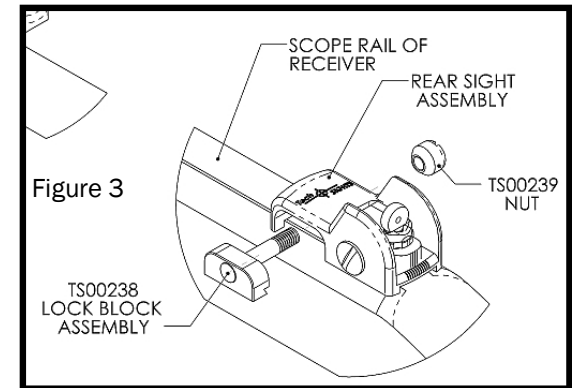

Figure 3
14. Assemble the Nut (TS00239) as shown in Figure 3.
15. Slide the Rear Sight Assembly to the desired position and tighten the nut securing the assembly to the scope rail. See Figure 3.